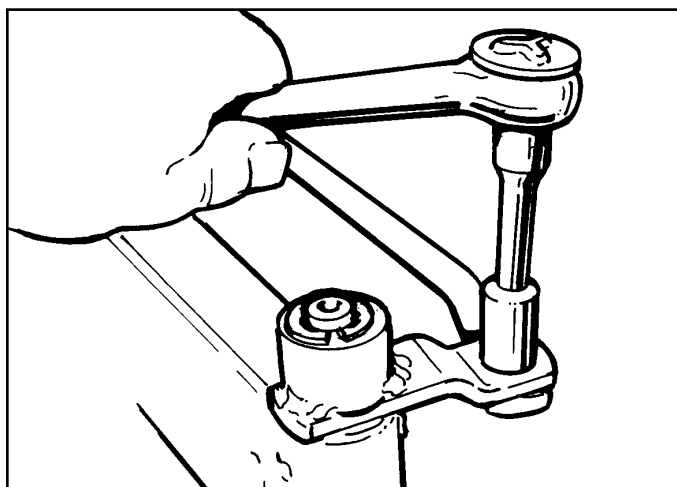

Figure A-12. Disassemble Tie Rod From RH Steering Arm
3. Remove the hex nut and carriage bolt securing the right hand steering arm to the tie rod (Figure A-12).